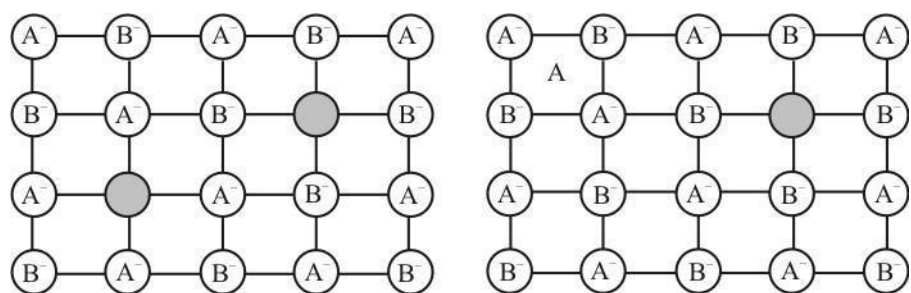

Fig : 8.22: Stoichiometric defects a) Schottky and b) Frenkel defects
**Schottky defects** : this type of defect are due to the absence of some positive and negative ions from their positions. These unoccupied lattice sites are called holes. Such defects are found in ionic compounds in which the positive and negative ions are of similar size e.g., NaCl and CsCl. The number of missing positive and negative ions is equal. The presence of Schottky defects decreases the density of the crystal [Fig. 8.22(a)].
**Frenkel defects** : this type of defect arise when some ions move from their lattice positions and occupy interstitial sites. The interstitial sites refer to the positions in between the ions. When the ion leaves its lattice site a hole is created there. ZnS and AgBr are examples of ionic compounds showing Frenkel defects. In these ionic compounds the positive and negative ions are of quite different sizes. Generally the positive ions leave their lattice positions, as these are smaller and can accommodate themselves in the interstitial sites. The Frenkel defects do not change the density of the solids [Fig. 8.22(b)].